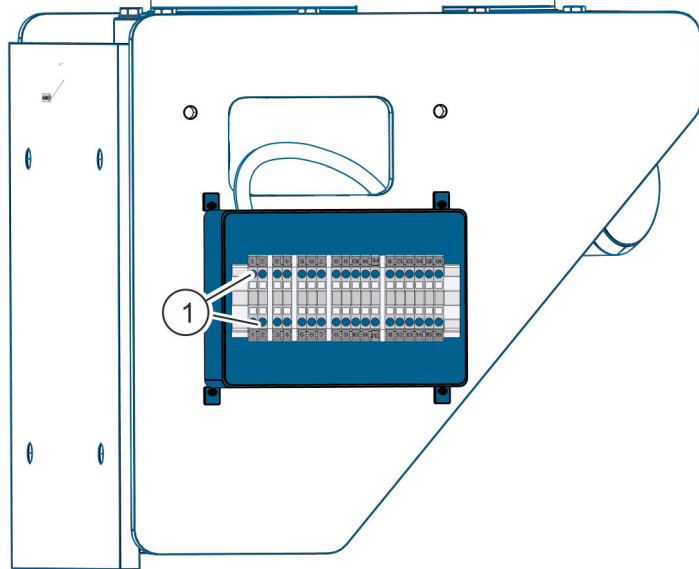

Fig. 19: Electrical connections
- ➔ Establish electrical connections (Fig. 19/1) for the swivel arm according to the terminal allocation diagram.